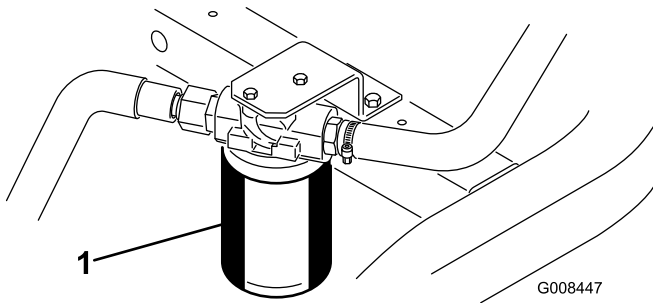

Figure 50
1. Clean the area around the filter mounting area (Figure 50). Place a drain pan under the filter and remove the filter.